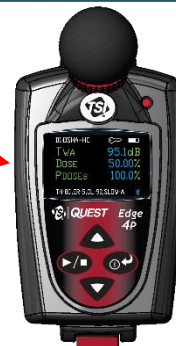

Figure 3-4
2. Plug the USB cable into the computer. (See “A” in Figure 3-4).